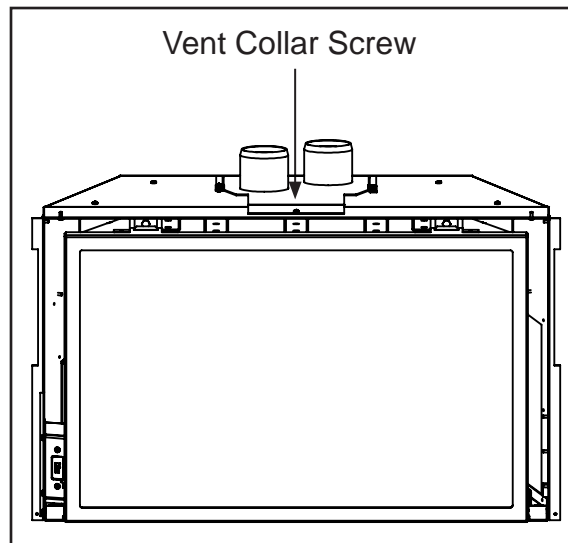

Figure 30: Vent Collar Plate Screw Location.
8. Apply a bead of stove cement sealant to the Ø3" (76mm) pipe of the exhaust vent terminal. Slide the flex liner onto the vent terminal and secure with three (3) sheet metal screws evenly spaced.
9. Place a bead of high temperature silicone on the intake collar of the vent terminal. Slide the Ø3" (76mm) flex intake liner over the collar, secure the flex liner with three (3) sheet metal screws evenly spaced. Secure the vent terminal to the chimney using adequate sealant, and according to local building codes.
10. If the fireplace opening is lower than 24" (610 mm), remove the vent collar plate from the top of the insert by unscrewing the 5/15" screw located on the center top of the stove above the door opening (see Figure 30). Slide the collar plate backwards. Properly secure the vent collar plate to the flexible vent pipe liner(s) previously installed in the chimney. Be careful not to over-stretch the liner(s).
11. Apply a bead of stove cement sealant to the top section of the Ø3" (76mm) exhaust vent collar plate. Slide the Ø3" (76mm) flex vent over the flue collar and secure with three (3) sheet metal screws evenly spaced.
12. Place a bead of high temperature silicone on the intake collar of the fireplace, slide the Ø3" (76mm) flex intake liner over the collar, secure the flex liner with three (3) sheet metal screws evenly spaced.